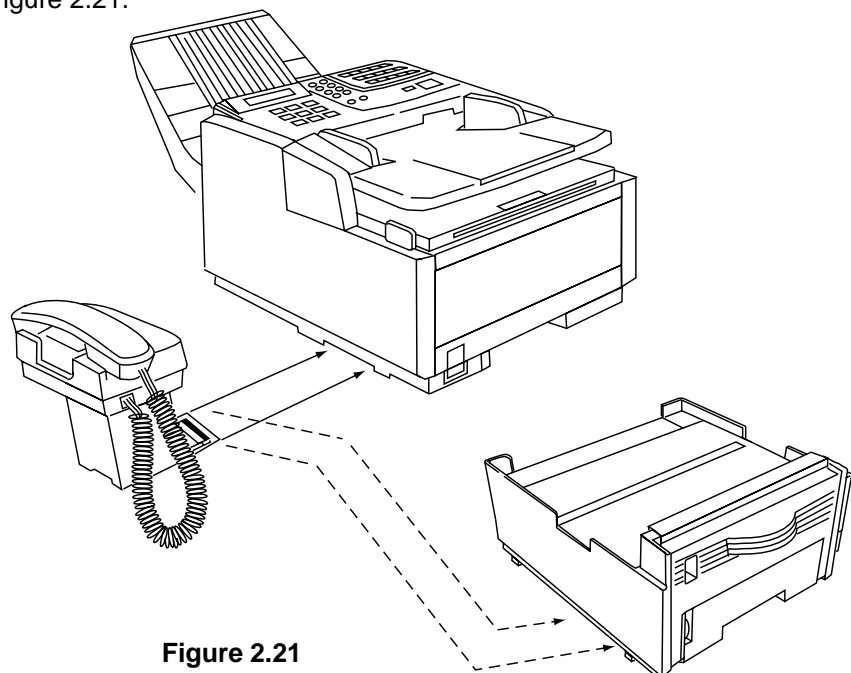

Figure 2.21
- (6) Install the telephone assembly on the facsimile transceiver unit. In this case, cram the telephone assembly into the position of Figure 2.21 by lifting the facsimile transceiver unit slightly. When 2'nd tray is mounted on the facsimile transceiver unit, install the telephone assembly in the position of Figure 2.21.